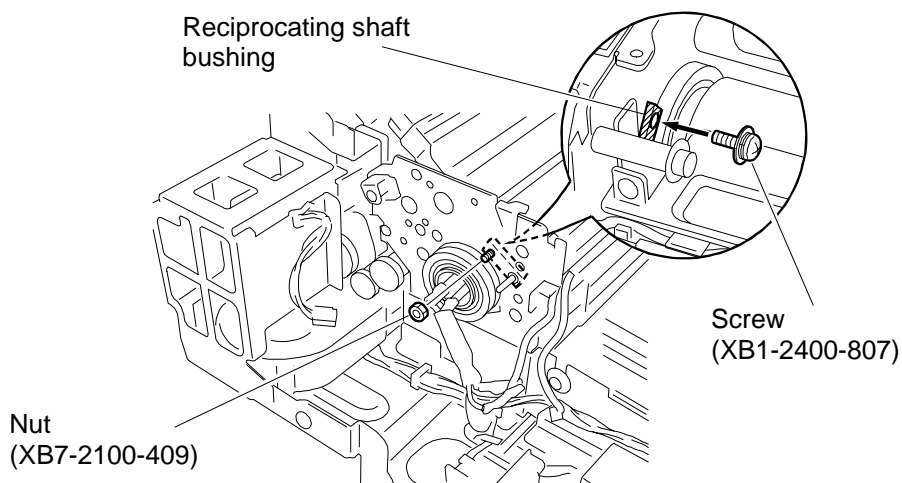

Fig. 6
- 6) Replace the screw used to secure the reciprocating shaft bushing, and tighten the nut. (Figure 6)